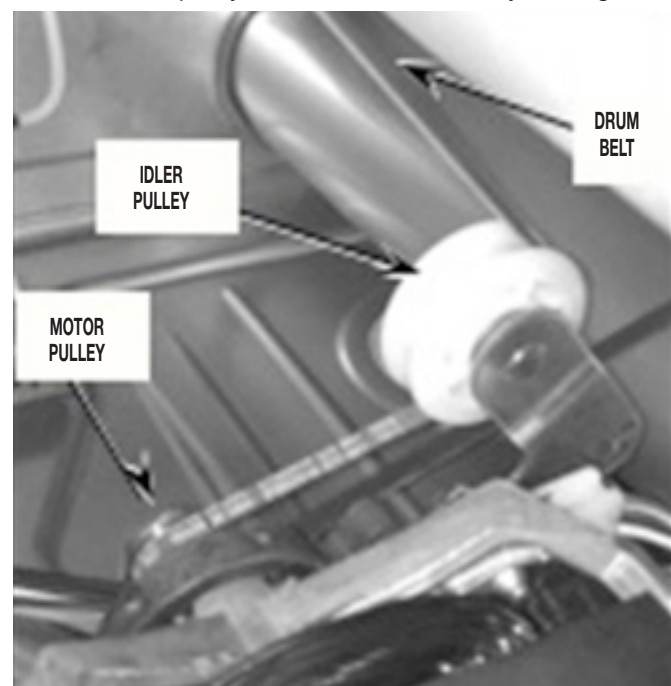

FIGURE 9
10. Remove the drum belt tension by reaching into dryer just under the drum to back side of drive motor. Grasp idler pulley and lift up to relieve tension from belt and remove belt from motor pulley and lower the idler slowly. See *Figure 9*.